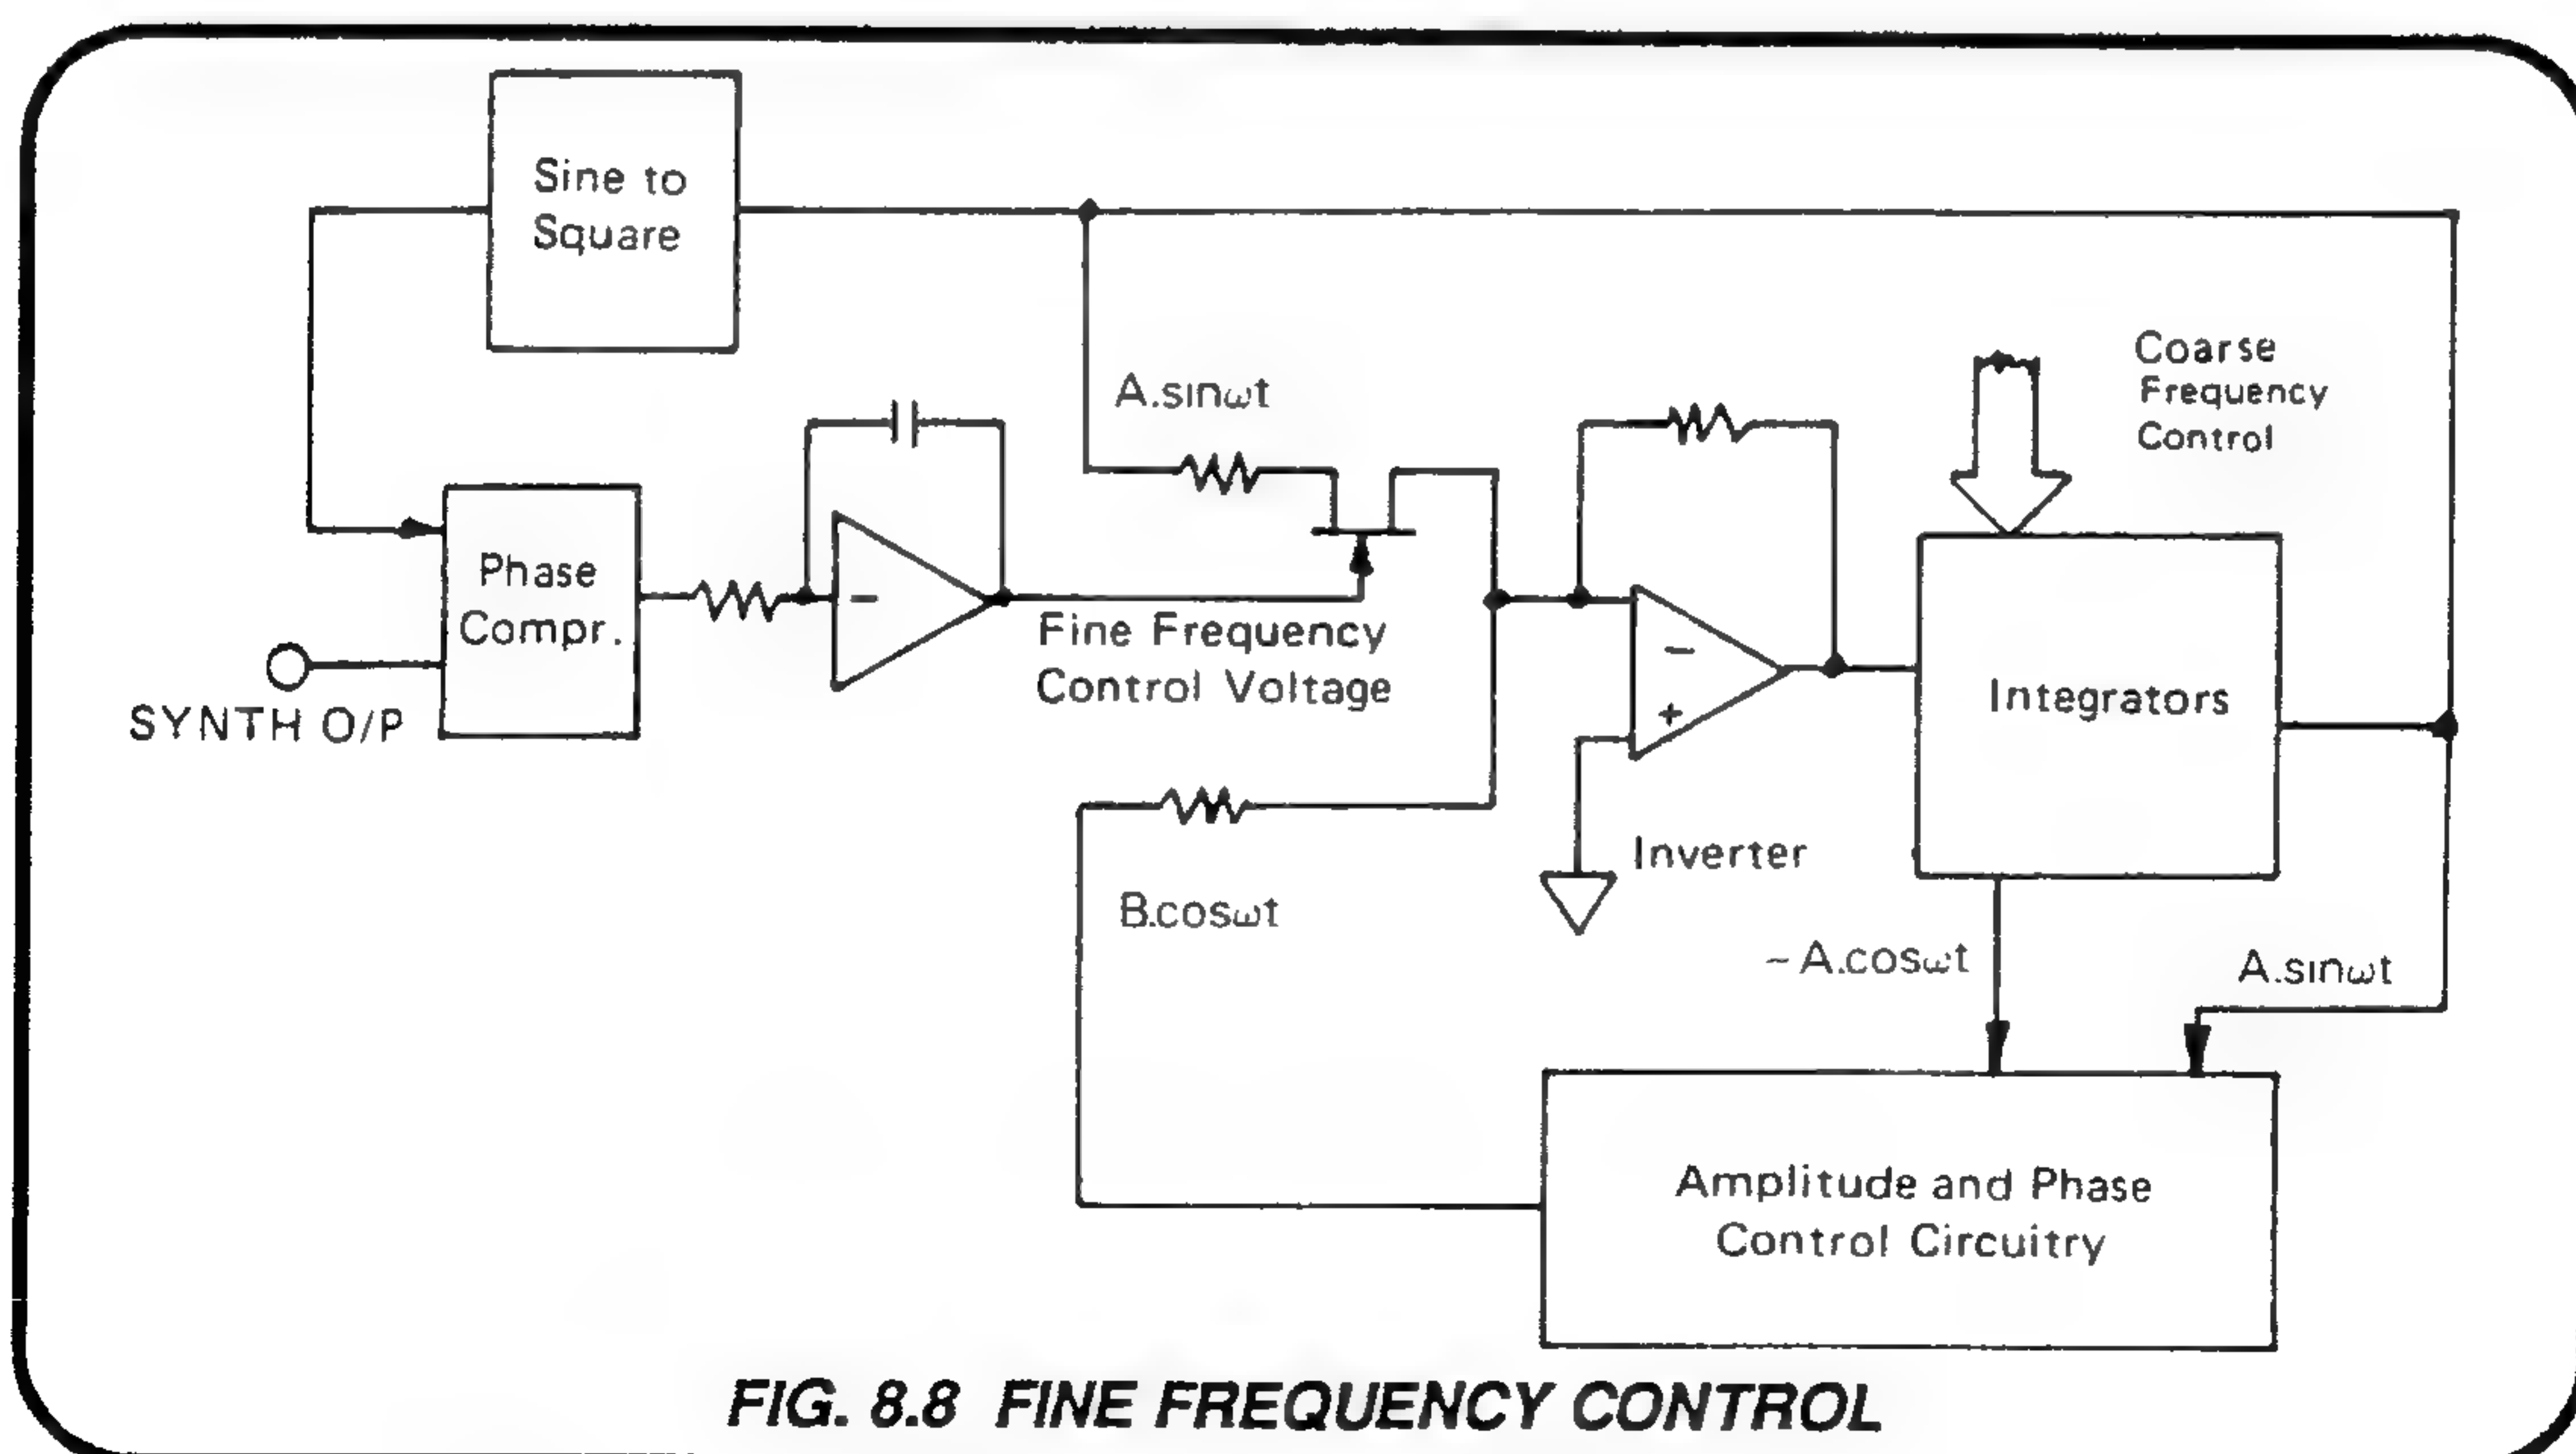

FIG. 8.8 FINE FREQUENCY CONTROL
8.2.4.2 Fine Adjustment (Fig. 8.8)